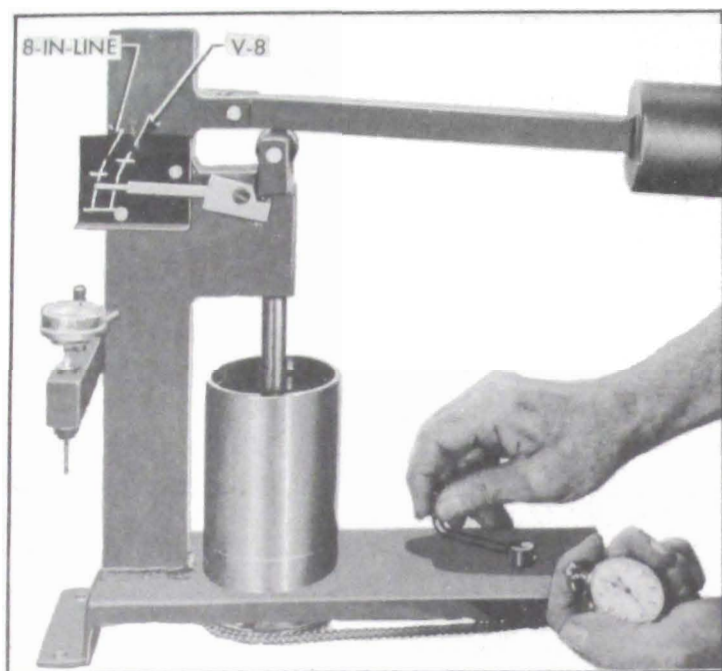

Figure 2-27—Checking Leakdown Rate
5. Lower the ram to rest in the lifter push rod seat, then lower the weight arm to rest on the roller of ram as shown in figure 2-27.
7. Raise weight arm to allow the lifter plunger to come up to its retainer, then lower the arm to rest on the ram roller. As the pointer starts moving upward start rotating the fluid cup by turning the handle one revolution every two seconds. See figure 2-27.
this test. See figure 2-27.